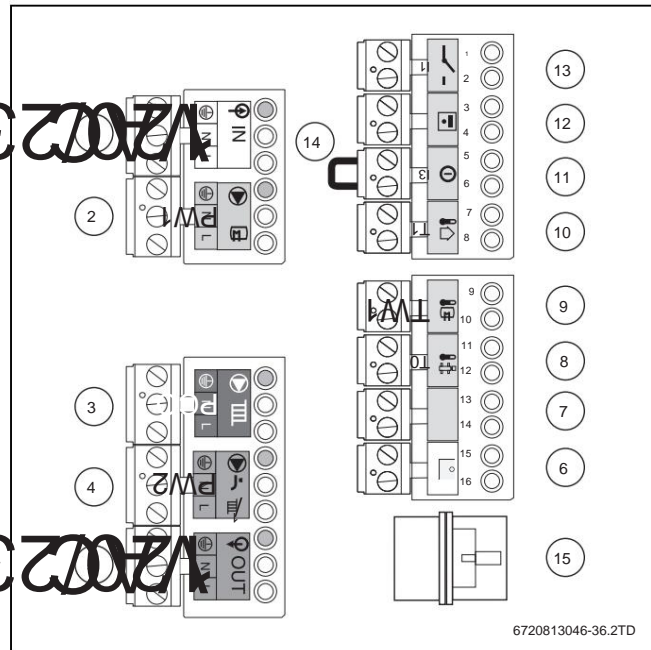

Figure 24 Terminal strips
ÿ Connect the on/off room temperature controller to the connection terminal (ÿ Fig. 24, [13]) (accessories).
ÿ Controller on connection terminal? (ÿ Fig. 24, [6]). Use a 2-core power cable from 0.4 to 0.75 mm² here.
• Remove bridge (• Fig. 24, [14]) on connection terminal 6 .
• Connect the outside temperature sensor to terminal block **7T1** (• Fig. 24, [10]).
• Cylinder temperature sensor on connection terminal **8TW1** (• Fig. 24, [9]).
• Heating pump on connection terminal **<PCO** (• Fig. 24, [3]) connect.
• Connect the circulation pump to connection terminal ;PW2 (• Fig. 24, [4]).
• Connect the storage tank loading pump/external 3-way valve (230 V) to terminal block :PW1 (• Fig. 24, [2]).
• External 3-way valve at connection terminal :PW1 (• Fig. 24, [2]).